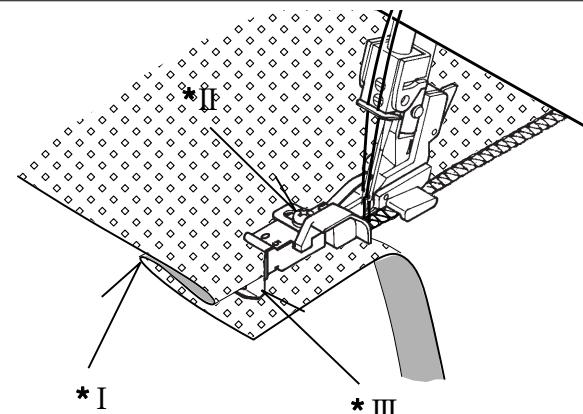
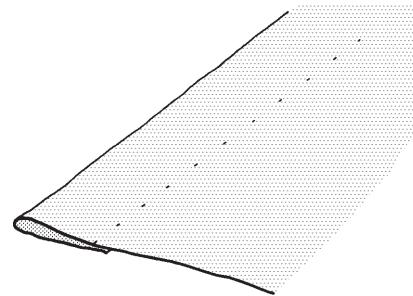

Fig. 2
Fig. 3
2. Place fabric under the presser foot with the *\$wrong\$* side up. Feed the folded edge through the guide in the front of the foot and lower the presser foot lever. Try a stitch (or several stitches) on a spare piece of the actual fabric, and adjust the guide so that the needle just catches the fold. Adjust the guide by means of the small screw on the top of the foot – See Fig. 2.
3. When correctly set, sew the hem. The outside edge will be cut away by the machine – See also Fig. 2. After completion, open out and press again. The stitches should be almost invisible on the *\$right\$* of the fabric – See Fig. 3.